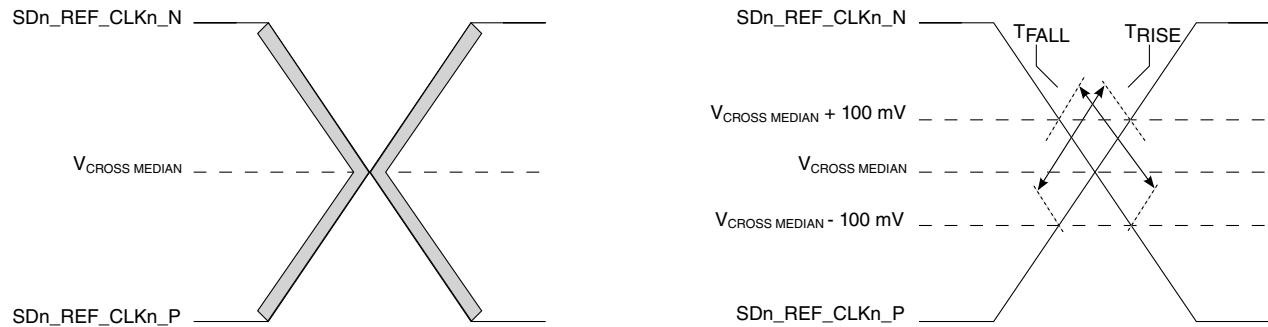

Figure 35. Single-ended measurement points for rise and fall time matching
11. Matching applies to rising edge for SD _n _REF_CLK _n _P and falling edge rate for SD _n _REF_CLK _n _N. It is measured using a 200 mV window centered on the median cross point where SD _n _REF_CLK _n _P rising meets SD _n _REF_CLK _n _N falling. The median cross point is used to calculate the voltage thresholds that the oscilloscope uses for the edge rate calculations. The rise edge rate of SD _n _REF_CLK _n _P must be compared to the fall edge rate of SD _n _REF_CLK _n _N, the maximum allowed difference should not exceed 20% of the slowest edge rate. See Figure 35 .